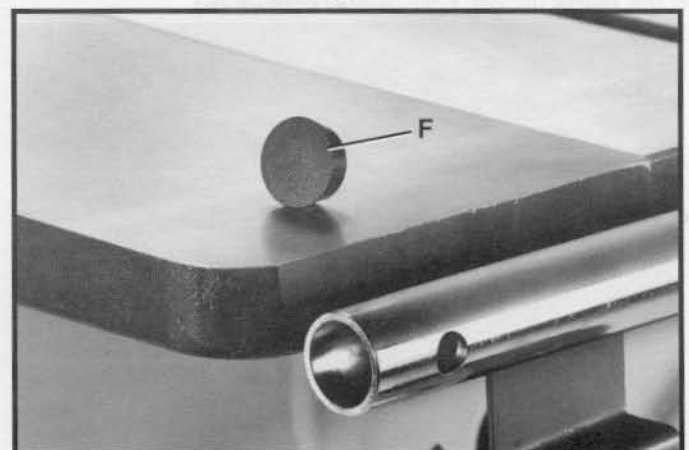

Fig. 16
4. Assemble the four plugs (F) Fig. 16, to the ends of each guide rail.